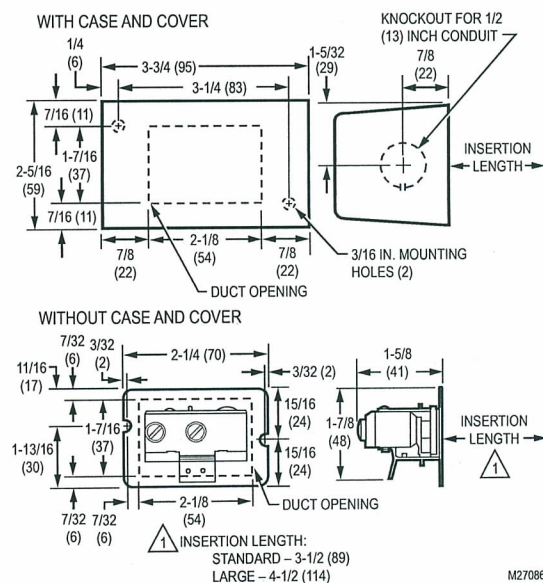

Fig. 1. S437 Dimensions in in. [mm in Brackets].
**Mounting Dimensions:** Refer to Fig 1.